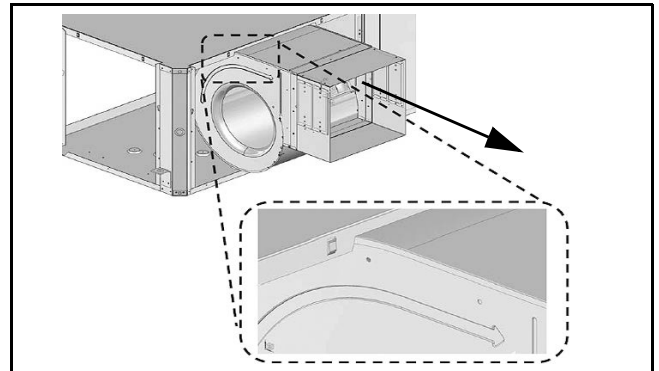

Fig. 32
9. Remove the blower assembly by sliding it forward. (See Fig. 32.)